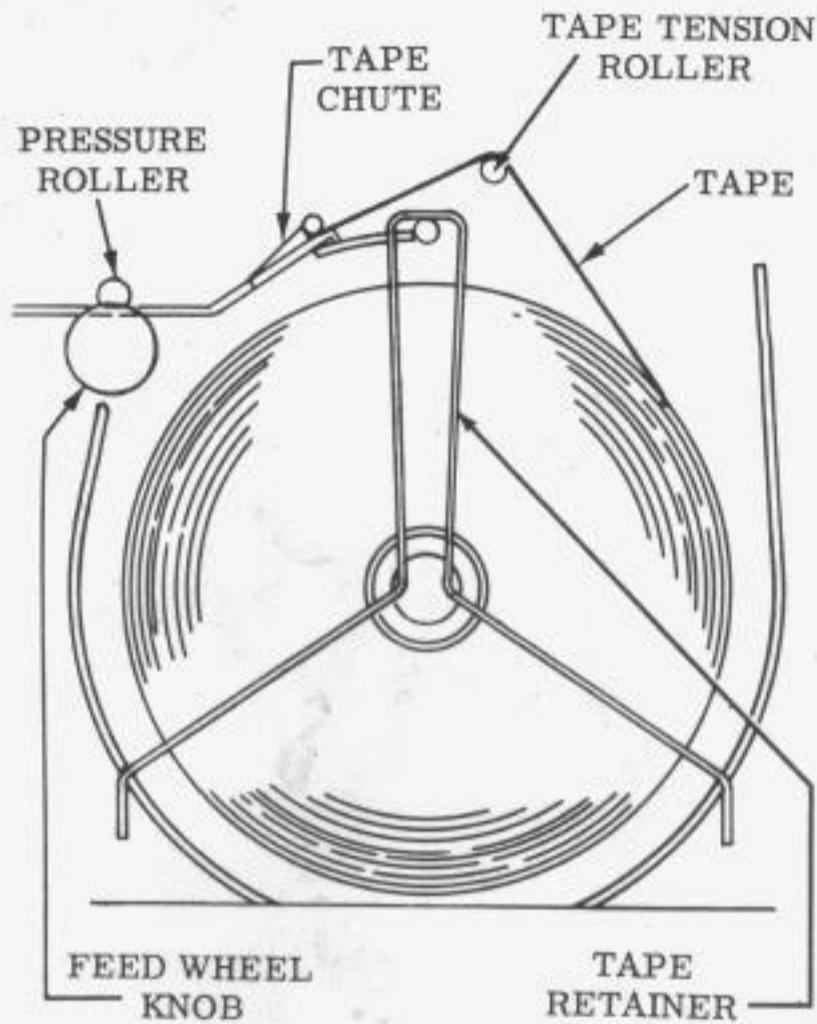

Figure 2 - Tape Path
2.03 Unsnap the tape roll retainer from its catch. Place a roll of paper tape over the spindle so that the tape will unwind from right to left over the top of the roll as shown in Figure 2. Close the retainer over the roll by snapping it over its catch. Thread the tape through the tape chute and between the feed roller and pressure roller.
2.08 Unsnap the tape roll retainer from its catch. Place a roll of transparent tape over the spindle so that the tape will unwind over the top of the roll into the tape chute as shown in Figure 2. Close the retainer over the tape roll and snap it over its catch. Thread the transparent tape through the tape chute.